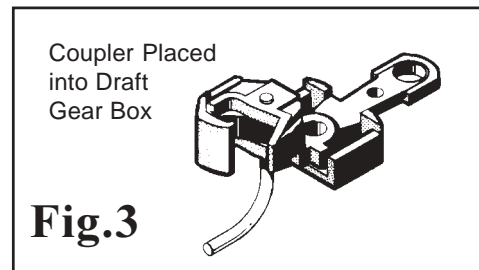

Fig.3
5. Place Coupler into Draft Gear Box as shown in Fig. 3. Add a little more **Greas-em** and work Coupler back and forth within gear box to polish.